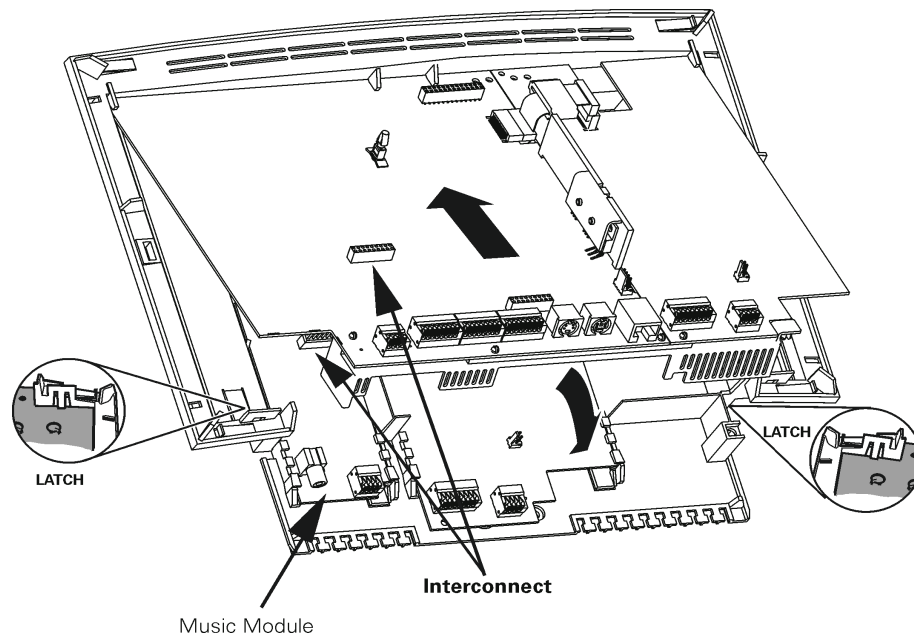

Figure 3-12 Installing a Music module HiPath 1120
3.	Raise the system's top slot (MB).
4.	Insert the module in the slot shown on figure 3-12.